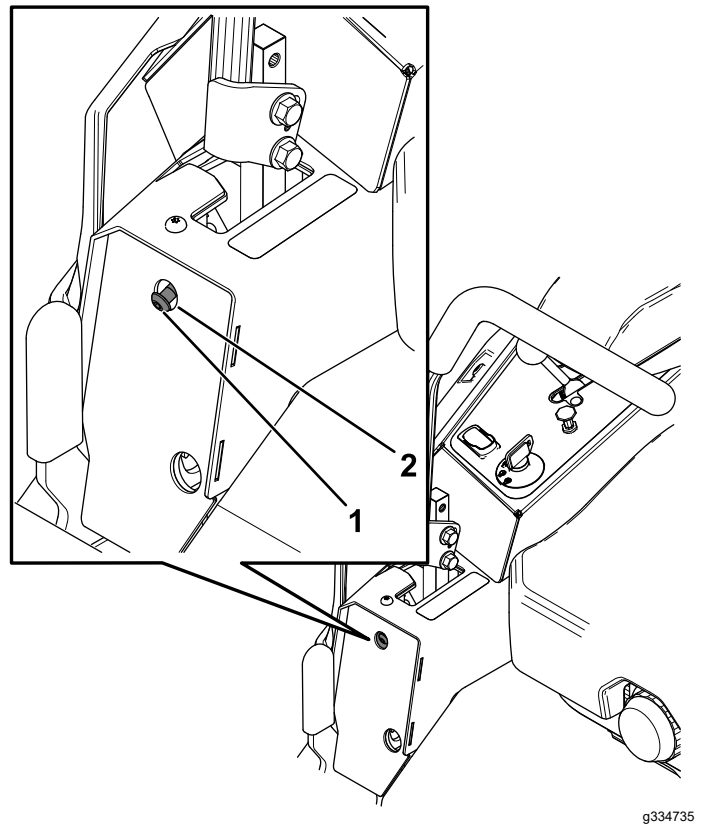

Figure 61
6. If the machine tracks to the right, insert a 3/16 inch hex wrench through the access hole in the left, front cover panel and rotate the tracking screw clockwise or counterclockwise to adjust the travel of the lever (Figure 61).
7. If the machine tracks to the left, insert a 3/16 inch hex wrench through the access hole in the right, front cover panel and rotate the tracking screw clockwise or counterclockwise to adjust the travel of the lever (Figure 61).